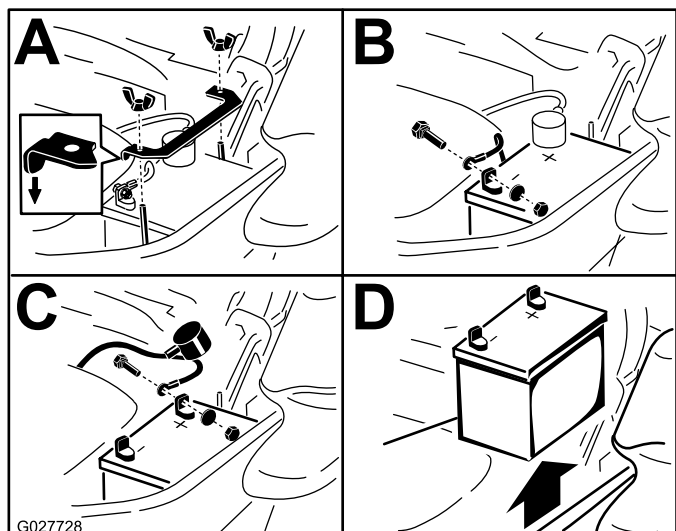

Figure 60
3. First disconnect the negative battery cable (black) from the negative (-)(black) battery terminal (Figure 60).
4. Slide the red terminal boot off the positive (red) battery terminal and remove the positive (+)(red) battery cable (Figure 60).
5. Remove the wing nut securing the battery clamp (Figure 60).
6. Remove the clamp (Figure 60).
1. Position battery in the tray with the terminal posts opposite from the hydraulic tank (Figure 60).
4. Secure the cables with 2 bolts, 2 washers, and 2 locknuts (Figure 60).
6. Install the clamp and secure it with the wing nut (Figure 60).